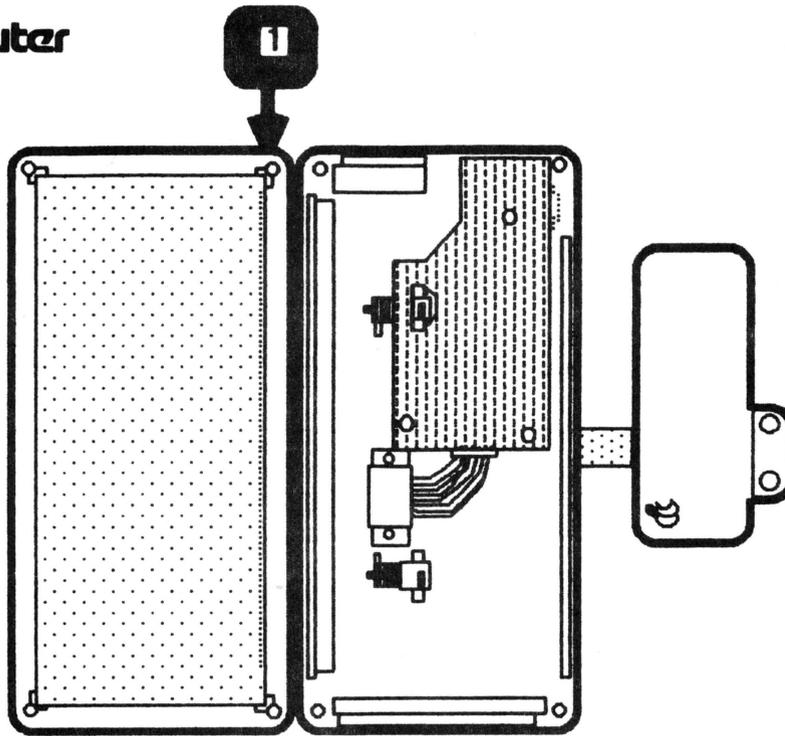

FIGURE 4
1. Place the both halves of the Flat Panel Display case on a protective foam pad, and orient them as shown in Figure 4.
NOTE: The Apple logo should be positioned as shown in Figure 4, #1.